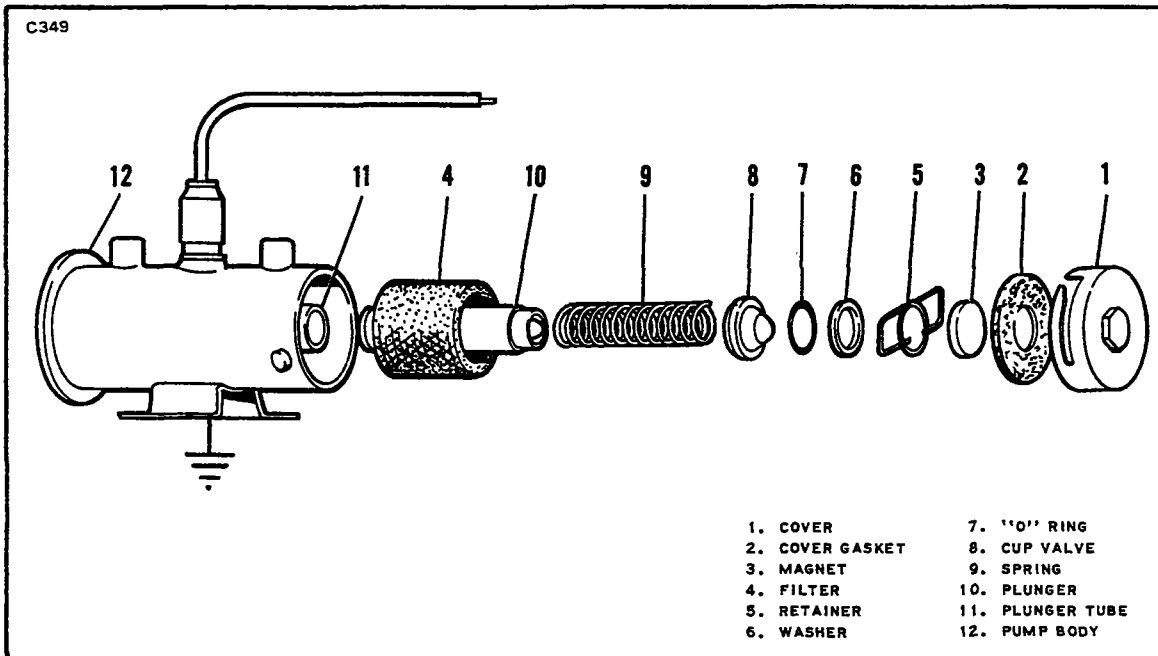

Figure 9-12. Plunger Fuel Pump (Late)
b. **Late Type Pump:** (Refer to Figure 9-12.)
b. Early Type Pump: (Refer to Figure 9-12.)
1. Insert the plunger spring assembly (10) in the tube with the buffer spring end first. Check fit by slowly raising and lowering the plunger in the tube. It should move fully without any tendency to stick. If a click cannot be heard, the interrupter assembly is not functioning properly in which case the pump should be replaced.